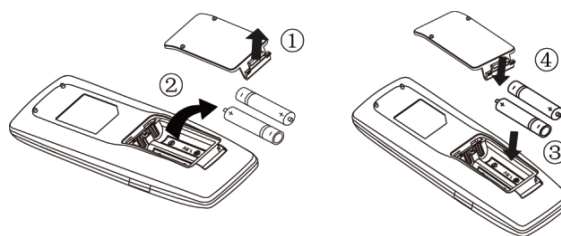

Fig.1
(1). Lift the cover along the direction of arrow (as shown in Fig 1 ①).
(2). Take out the original batteries (as shown in Fig 1 ②).